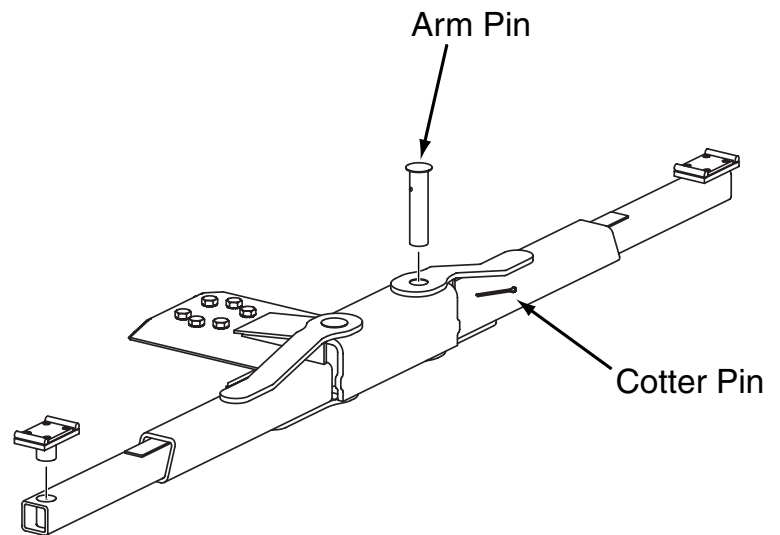

Fig. 23
3. Install (4) arm assemblies using the arm pins and cotter pins, Fig. 23.